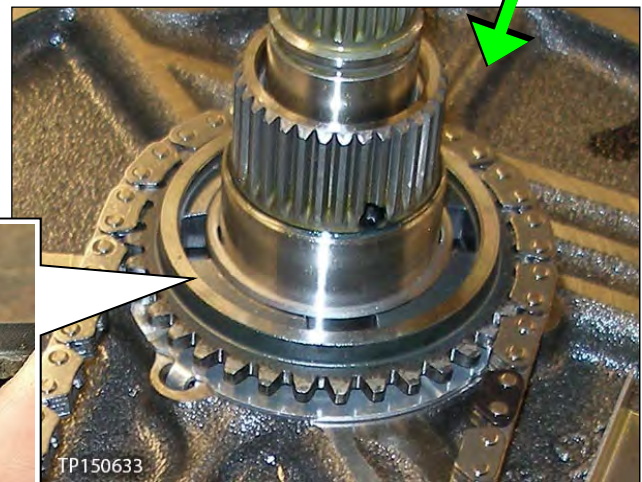

Figure 150
- Make sure the raised edge (wider edge) on the drive sprocket is facing up (Figure 150).